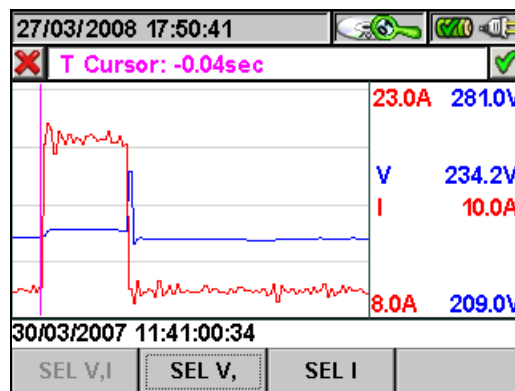

Fig. 137: Inrush current graph
- The **F3** key (or the **GRAPH** item on the display) accesses the page showing the graph for the inrush current selected (Fig. 137).